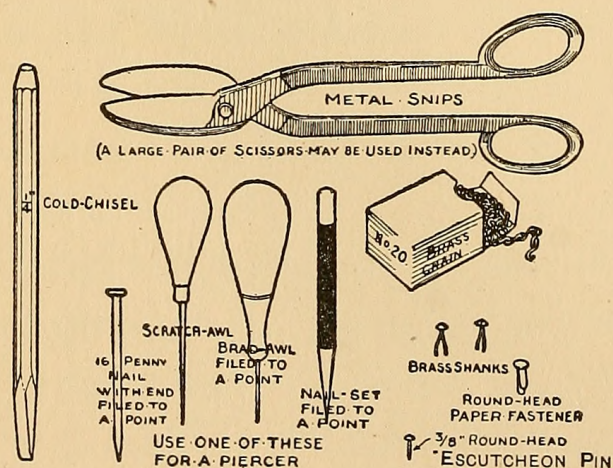

FIG. 278. — Some of the Tools and Materials Required.
Piercing Tool (see Fig. 278)
$\frac{1}{4}$ " Cold-chisel (see Fig. 278)
$\frac{3}{8}$ " Round-head Escutcheon Pins (Fig. 278)
Brass Shanks or Paper Fasteners (Fig. 278)
Box of No. 20 Brass Chain (or Bead Fringe) (Fig. 278)
basswood for the disk. Make it  $5\frac{1}{16}$  inches in diameter, cut it out with a compass-saw or other fine saw, and smooth the edges with a wood-file or chisel; then sand-paper it. Cut a strip of brass of the proper width and length to form a metal band for the edge of the base, and tack it to the edge with *escutcheon pins* (Fig. 278), spacing them about  $\frac{3}{4}$  inch apart.
the other. Fasten the end edges with brass shanks, paper fasteners, or escutcheon pins (Fig. 278), bending the ends over upon the inside. If you use the pins, cut them off short and clinch them upon the inside by placing them on the head of a hatchet and hammering the heads with a hammer.
**Chain Fringe** is cheaper and more interesting to put on than the bead fringe frequently used upon brass shades. Figure 278 shows the size which should be bought. Cut this up into 3-inch lengths and fasten the pieces to the lower edge of the shade about  $\frac{3}{16}$  inch from center to center, hooking the opened link on the end of each piece of chain through a hole punched through the brass, and then pinching it closed.
and top pieces (Figs. 296 and 297) shows the main measurements for the design, and at the left the design is shown perforated. After laying out lines to the measurements given, divide up the spaces between into the number of spaces shown. The small holes of the design are made with a piercer, and the slits are cut with a cold-chisel (Fig. 278). Space the perforations as shown, and be careful to keep the ends of the slits within the guide-lines